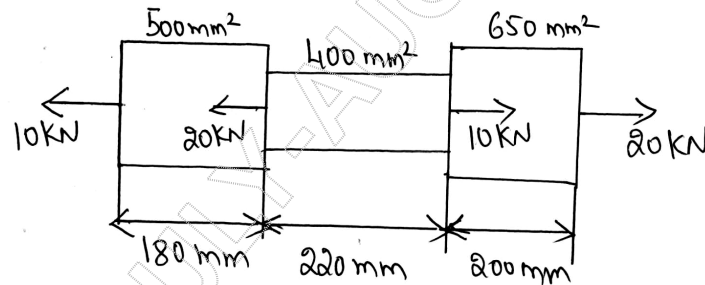

Fig Q1(c)
- c. Different portions of stepped bar are subjected to forces as shown in Fig Q1(c). Determine: